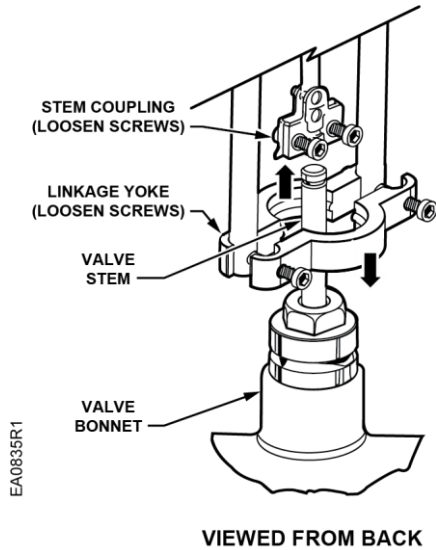

Figure 2. Mounting the Linkage/Actuator Assembly on a Valve.
1. Use the 5 mm hex key to loosen the screws in the linkage stem coupling. Use the 1/4-inch hex key to loosen the screws in the linkage yoke. See Figure 2.
2. Orient the linkage over the valve bonnet. See Figure 2.